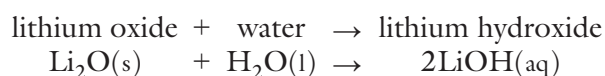

Figure 9.6 Freshly cut sodium.
- They have shiny surfaces when freshly cut with a knife (Figure 9.6).